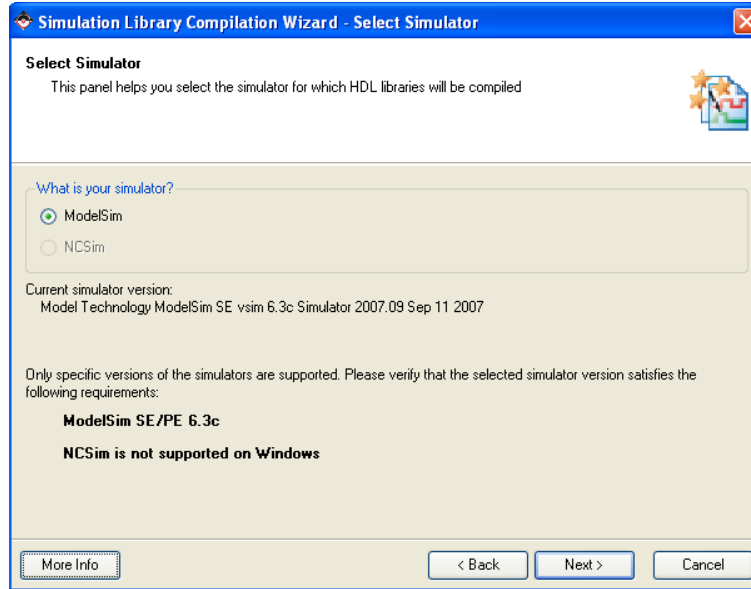

Figure 4: Simulation Library Compilation Wizard - Select Simulator
- The second screen of the wizard will be used to select the simulation software as shown in Figure 4. EDK simulation supports only two types of simulators: i) ModelSim 6.3c SE and ii) NCSim which is not supported on windows platform. For this reason ModelSim 6.3c is used in this tutorial to simulate MicoBlaze system. It is important to know that if ModelSim 6.3c is not installed in your system, the wizard will not continue. **Select ModelSim 6.3c** and then **Click Next.**